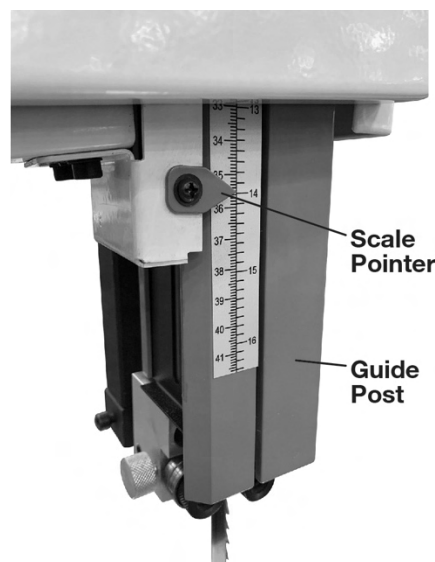

Figure 7-5
2. Position blade guide assembly so that bottom of guide bearing assembly is about 3/16-inch above material to be cut. The scale pointer (Figure 7-5) indicates height of guide assembly from table. This provides minimal clearance between workpiece and bottom of guide bearings, which minimizes blade deflection and enhances operator safety.